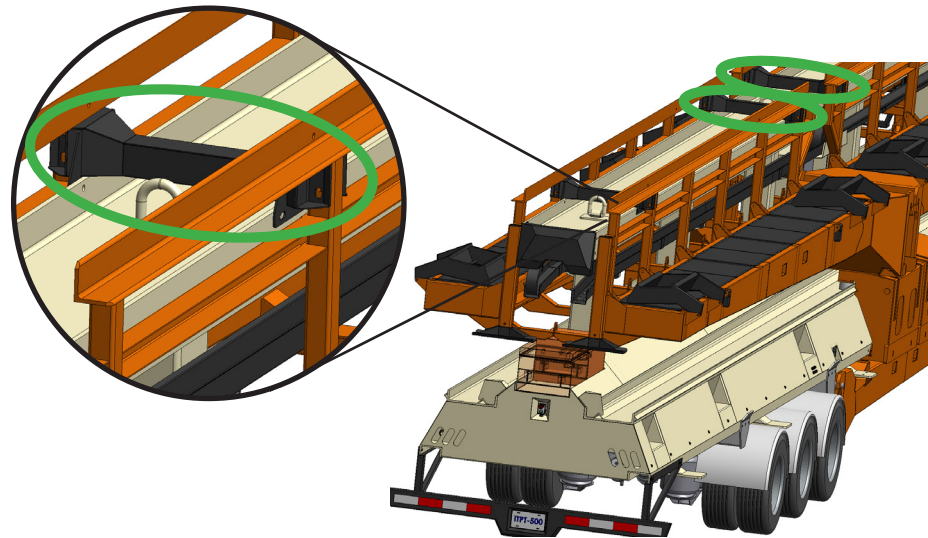

Fig. 4: catwalk stowage brackets
4. Unbolt *Catwalk Stowage Brackets* located along top of main frame. (see fig. 4)